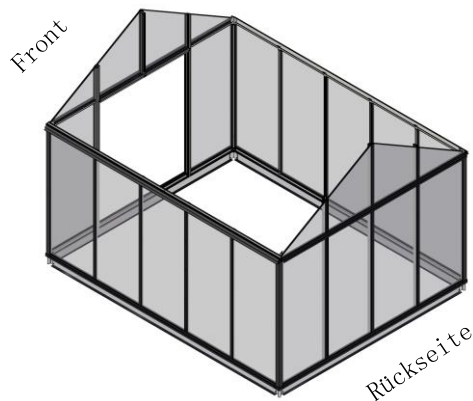

fig. 40
- the work steps described in fig.38/39 are repeated for both the right rear side of the gable and for the opposite gable front. (fig. 40)